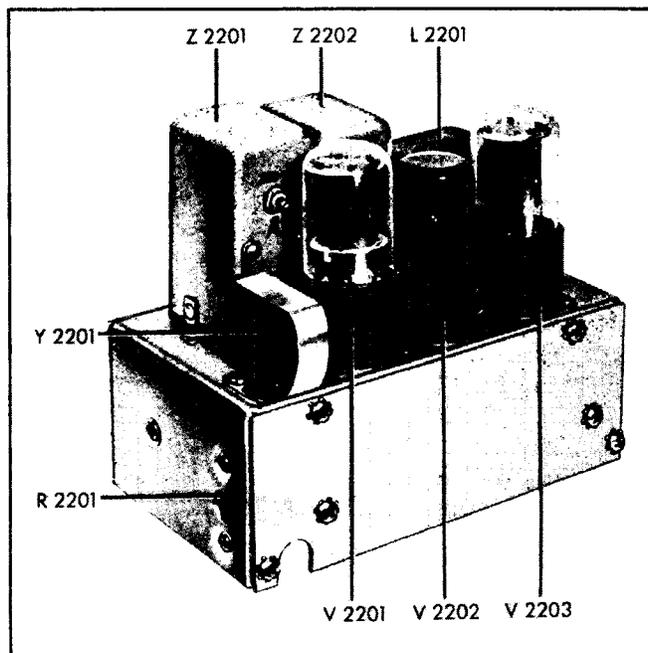

Figure 5-10. MCW-CFI Unit — Top View
(1) Extend the length of wire and twist it to form a "twisted-pair." Leave a loop at the far end of the lead so that the loop can be placed over a tube on the CFI unit.
(2) Place loop of wire over tube V2201 on CFI unit.
(3) Connect the output of a stable local 200 Kc oscillator to the horizontal deflecting plates of the oscilloscope. Local 200 Kc oscillator must have been checked recently against a U.S. Bureau of Standards transmission to insure frequency accuracy.
(4) Turn on oscilloscope.
(5) Insert a small "jeweler's" type screw driver in the slot of inductor Z2201A tuning slug adjustment screw (see fig. 5-10) adjacent to which is stamped number "200." Rotate this screw and observe reading of vacuum tube voltmeter. As 200 Kc crystal oscillator circuit approaches resonance, the meter reading will increase. It will be noted that the tuning is very broad after the meter has reached its peak reading. Final adjustment of the tuning slug position is now made by observing pattern on oscilloscope screen.
c. APPROXIMATE CALIBRATION.—The procedure given in paragraph 6a(1) through (13), this section, must be carried out before proceeding with the following:
(1) Connect a pair of earphones to SIDETONE jack on transmitter.
(2) Insert a small "jeweler's" type screw driver in the slot of inductor Z2201A tuning slug adjustment screw (see fig. 5-10) adjacent to which is stamped the number "200." Rotate the screw and observe the reading of the vacuum tube voltmeter. As the crystal oscillator circuit approaches resonance, the meter reading will increase. It will be noted that the tuning is very "broad" and that tuning slug for inductor Z2201A may be adjusted over a considerable range without appreciably changing the peak reading of the meter. Note the number of turns of the tuning slug that can be made without changing peak meter reading. By continuing to turn the tuning slug half this number of turns after the meter just approaches peak reading, it will be possible to set the tuning slug to the approximate center of the broad resonance peak. This adjustment must be made to set the tuning slug correctly.
(3) The peak reading obtained on the meter in the previous operation indicates maximum crystal activity and proper operation of the crystal oscillator circuit. If a loud squeaking rush noise is heard in the headphones as soon as the crystal oscillator functions, adjust tuning slug (stamped "150") in inductor Z2202A until this noise disappears.
(4) Quiet operation, arrived at by the foregoing checks and adjustments, indicates correct operation and calibration beat signals may be searched for by rotating Control "B."
(5) Tune the h-f oscillator by rotating control "B" until two approximately equal level loud signals are heard.
(6) Compare the zero beat dial settings of the two selected beat points with the calibration table check points to determine if the interval between the points is 100 Kc, (oscillator frequency is doubled on range 1 causing 50 Kc interval of CFI output to be recorded at 100 Kc).
(7) If the interval is correct and the dial readings correspond reasonably (within 25 dial divisions) with the calibration table, tune Z2201B (farthest from crystal) marked "50," tune Z2202B (nearest crystal) marked "50," and tune Z2202A (marked "150") for maximum sidetone output. Recheck tuning in the same order. If interval is less than 100 Kc, see paragraph 6c(10), this section. If interval is greater than 100 Kc, see paragraph 6c(11), this section.
(8) Recheck adjustment of Z2201A (marked "200") to determine the setting which is the midpoint of the range in which the vacuum tube voltmeter reading is a maximum.
(9) Turn the transmitter on and off several times, noting whether the crystal oscillates positively (vacuum tube voltmeter rises to peak reading) as soon as the transmitter is turned on. Detune Z2201A (marked "200") slightly to improve crystal starting if necessary.
(10) If less than a 100 Kc interval is obtained, rotate mixer tank Z2202B adjustment screw clockwise
(1) Remove the transmitter cabinet cover, the autotune cover plate, and the wrap-around section of the right-hand end of the transmitter cabinet.
(2) Remove the snap button from the side of the chassis of the MCW-CFI unit. (See fig. 5-10).
(3) Tune the transmitter into a phantom antenna (Antenna A-58 if available) on 2400 Kc. Load the power amplifier to exactly 100 on the P.A. PLATE meter in the transmitter when using CW transmission.
(4) Place the EMISSION selector switch on the MCW position, and, while holding the TEST switch closed, adjust resistor R2201 until the plate meter reads 190.